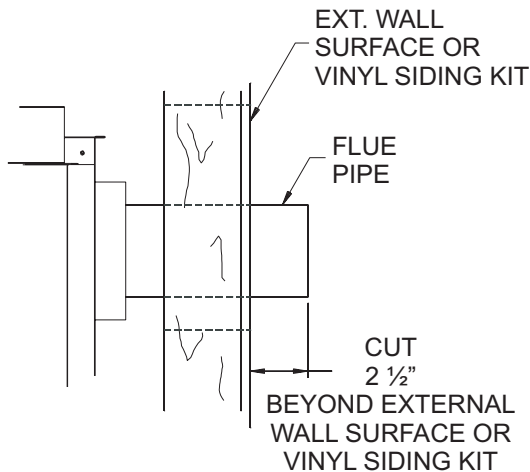
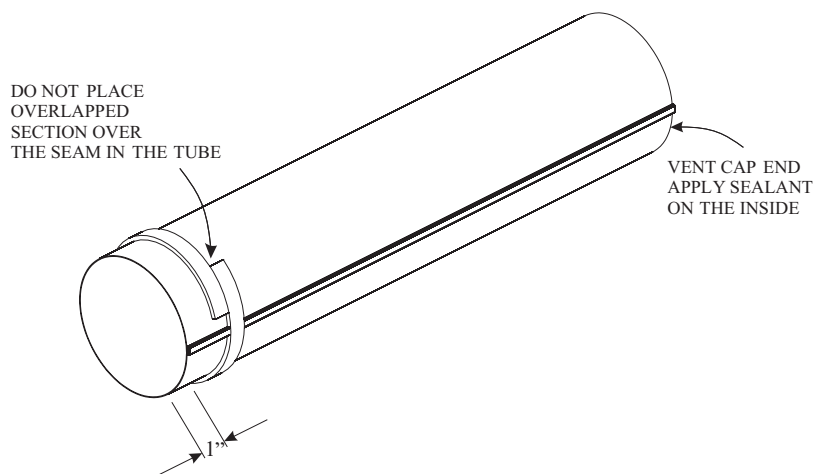

Figure 49
Figure 50
8. Attach the 4" (102 mm) diameter flue outlet tube onto the rigid venting system or directly to fireplace. Ensure the 4" (102 mm) diameter flue outlet tube is placed as far as possible onto the rigid venting system. Mark the 4" (102 mm) diameter flue outlet tube 2 1/2" (64 mm) beyond the vinyl siding kit or wall. See Figure 49. Remove the 4" (102 mm) diameter flue outlet tube from rigid venting system. When installing directly to fireplace, tape gasket needs to be used.
10. From outside: Push the 6 5/8" (168 mm) diameter inlet tube/mounting plate onto end of rigid venting system to correct position. Fasten the outside mounting plate to the vinyl siding kit or wall with (4) 10 x 1 1/2" screws. (Ensure upward slope).
11. From inside: Attach the inlet tube to the collar on the back of the fireplace (or the rigid venting system) using (3) self tapping screws.
12. Seal the 4" (102 mm) diameter flue outlet tube. Follow instructions and diagram (Figure 50).
14. Fasten vent cap end using (3) 10 x 1/2" screws to mounting plate. **Sealing 4" (102 mm) Diameter Flue Outlet Tube**
If the air inlet and flue outlet tubes are to be connected directly to the unit (no rigid venting system is being used), then the gasket provided must be used to seal the 4" (102 mm) flue outlet tube. Peel the paper off the self-adhesive gasket and then wrap it around the end of the tube (if tube was cut, it is recommended to use cut end) as shown in Figure 50. Pull the gasket tight at all times while wrapping it around tube. The gasket ends should align, to form a complete seal. The overlapped section should NOT come in contact with the seam in the tube. Apply high temperature sealant to the opposite end of the tube (on the inside of the tube). The end with the gasket will attach to the back of the unit. Continue with Step 13.